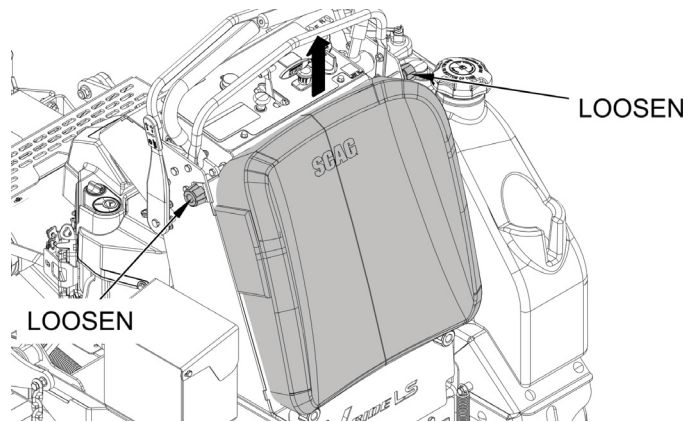

Figure 6-10. Operator Cushion Removal
1. Remove the two (2) knobs securing the cushion bracket to the machine. See Figure 6-10.